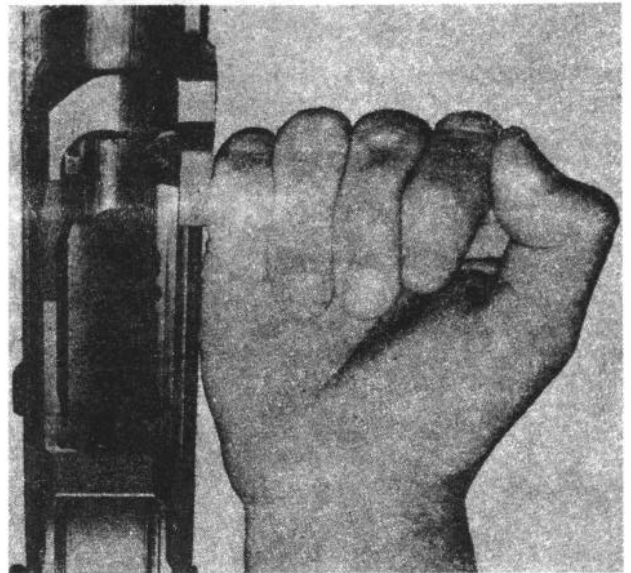

Figure 32. Applying immediate action.
*a.* Immediate action is the prompt action taken by the firer to reduce a stoppage. To apply immediate action, pull the operating rod handle all the way to the rear with the right hand, *palm up*, then release it. The right hand should be held in the manner shown in figure 32 so it will not be injured in the event of a hangfire. Next, aim the rifle and try to fire it.